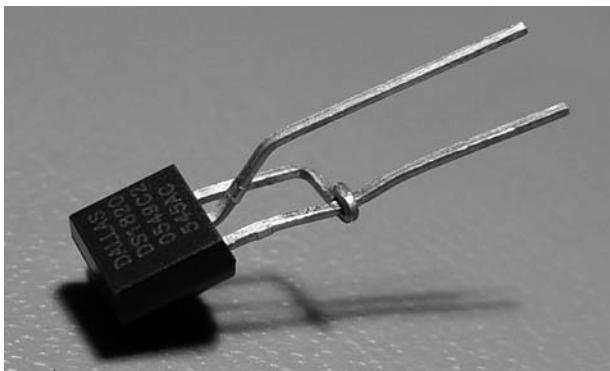

FIGURE 5-10: Bend the pins on the DS18S20 to connect 1 to 3.
1. Connect pin 1 and pin 3 on the DS18S20 together and twist gently. Bend pin 2 slightly forward so it clears the other pins as shown in Figure 5-10.